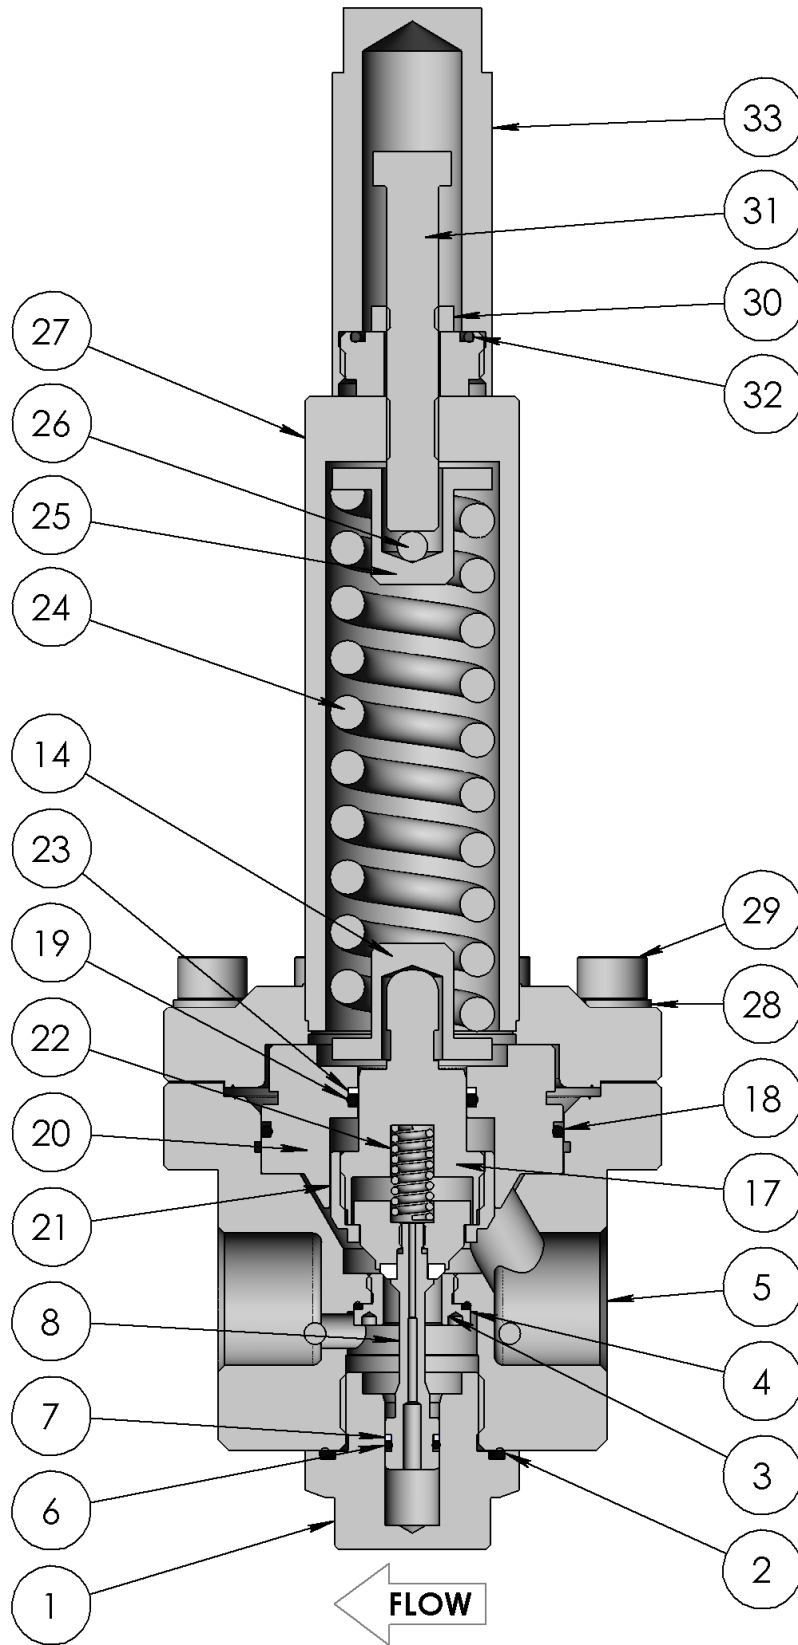

Fig 3
1. Ensure the adjusting screw (31) is backed out and not acting on the set spring (24).
2. Loosen the cap screws (29) and remove the spring housing (27).
3. Remove the upper spring guide (25) including the ball (26) and the set spring (24).
- 4a. For a diaphragm sensor, remove the poppet nut (16) and washer (15) from the sensing assembly and remove the bottom spring guide (14), clamp plate O-ring (13), diaphragm (12), and clamp plate (11). Remove the retaining ring (10) from the body then remove the body plate (9) and poppet (8).
- 4b. For a piston sensor with a piston screw (21) refer to Fig 3. Remove the sensing assembly from the body (5). Remove the piston (17) from the piston plate (20) then remove the piston screw (21) from the piston (17) to release the poppet (8) and overtravel spring (22).
2. Lightly lubricate the piston threads (17).
3. Insert the poppet (8) through the piston screw (21).
4. Place the overtravel spring (22) onto the poppet (8).
5. Screw the piston screw (21) onto the piston (17). Torque to 11 lbf·ft (15 N·m).
6. Fit the piston plate O-ring (18), piston O-ring (19) and, if present, piston backup ring (23) onto the piston plate (20). Ensure they are oriented correctly per Fig 3.
7. Lightly lubricate the piston O-ring (19) then insert the piston (17) into the piston plate (20).
8. Lightly lubricate the poppet O-ring (6) then insert the sensing assembly into the body (5). The poppet (8) is inserted through the seat (3) and into the body plug (1).
9. Place the bottom spring guide (14) onto the piston (17).
4. Fit the poppet O-ring (6) into the body plug (1) and lightly lubricate it.
6. Lightly lubricate the piston threads (17).
7. Insert the poppet (8) through the piston screw (21).
8. Place the overtravel spring (22) onto the poppet (8).
9. Screw the piston screw (21) onto the piston (17). Torque to 11 lbf·ft (15 N·m).
10. Fit the piston plate O-ring (18), piston O-ring (19) and, if present, piston backup ring (23) onto the piston plate (20). Ensure they are oriented correctly per Fig 3.
11. Lightly lubricate the piston O-ring (19) then insert the piston (17) into the piston plate (20).
12. Insert the sensing assembly into the body (5). The poppet (8) is inserted through the seat (3) and into the body plug (1).
13. Place the bottom spring guide (14) onto the piston (17).